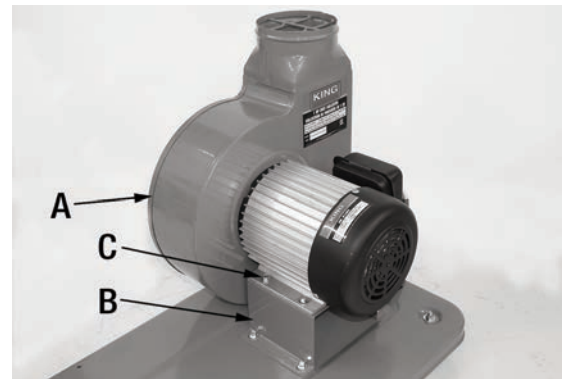

FIGURE 7
3. Install the motor and ventilation housing assembly (A) Fig.7 to the motor support (B) using 4 flange head hex. bolts (C).